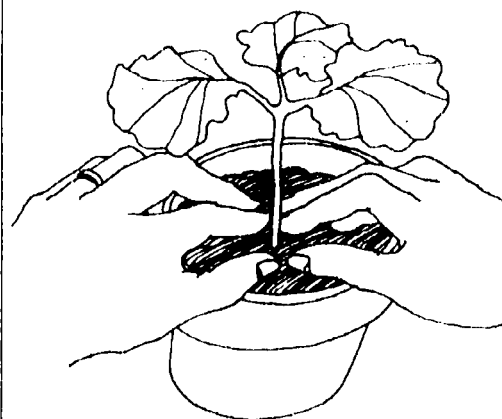

Figure 2. Insert the cutting in the rooting medium
4. Insert each cutting in rooting medium (see Figure 2).